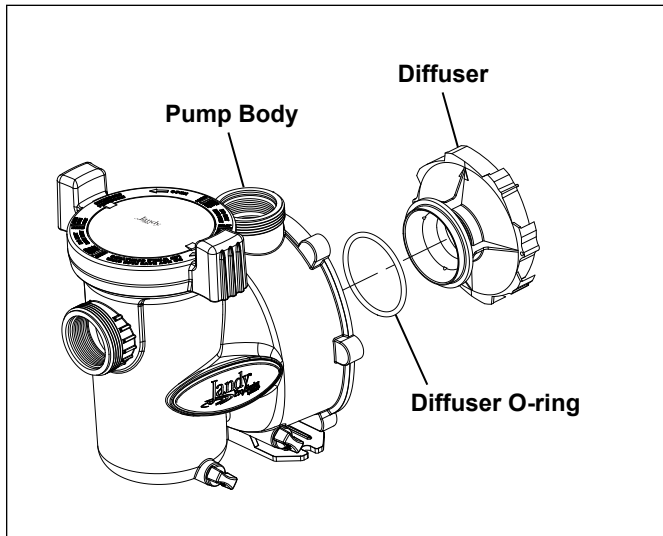

Figure 18. Pump Body and Diffuser Exploded View
6. Replace the two (2) small Phillips-head screws. Tighten the screws to draw the diffuser against the motor backplate.
7. To help prevent an airleak into the system, make sure the diffuser o-ring, o-ring groove, and o-ring seal area are clean and free of debris. If you removed the diffuser o-ring, make sure you install it into the groove you removed it from. (See Figure 18.) If grease is used to retain the o-ring, it **must** be silicone based. **Do not use petroleum-based grease.** It will destroy the o-ring.
8. Slide the diffuser into the mating hole in the pump body. While supporting the motor, start two (2) screws on opposite sides. (This will hold the motor in position while you start the other six (6) screws.)